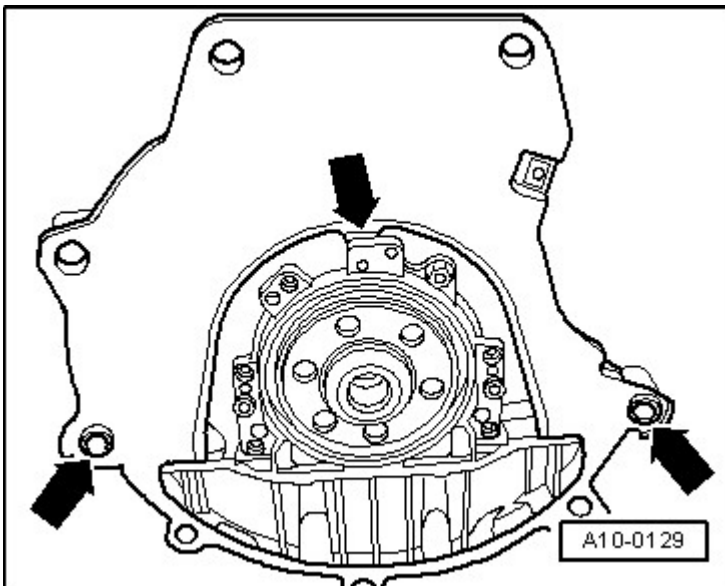

Fig. 7: Identifying Intermediate Plate Alignment Bushings
- Is hooked in at sealing flange, refer to **Fig. 7**